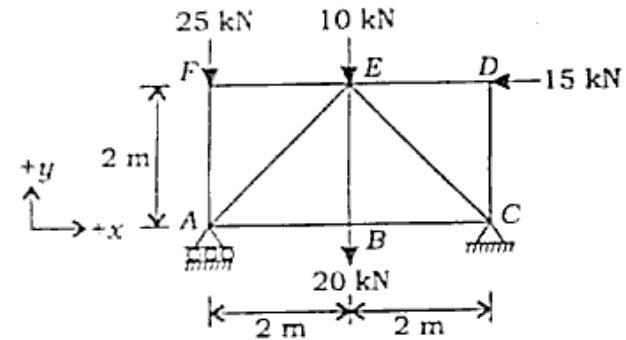

Fig. 5
8. Determine the vertical deflection of joint E of a truss shown in Fig. 5. Take $A = 2000$ mm² and $E = 200$ kN/mm².